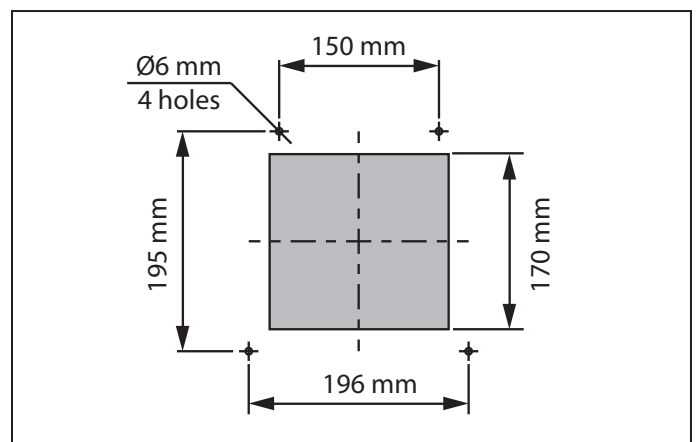

Fig. 14. Hole marking for the ventilation unit
6. Mark and drill the fastening holes for the back part of the ventilation unit, Fig. 14.